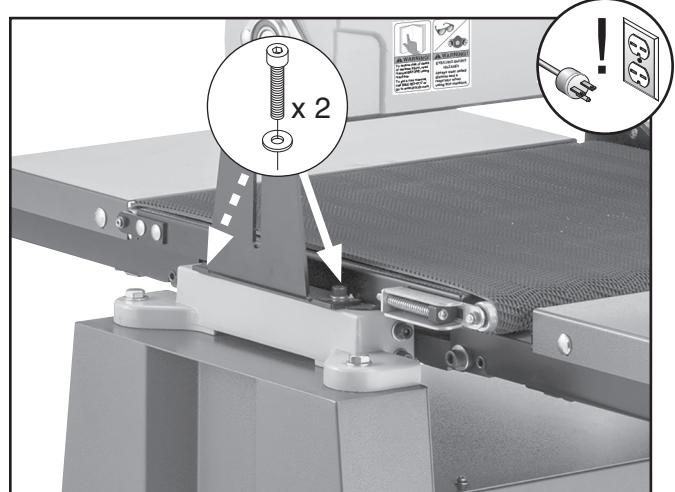

Figure 63. Location of table cap screws.
- Remove (2) table cap screws and flat washers shown in **Figure 63**.